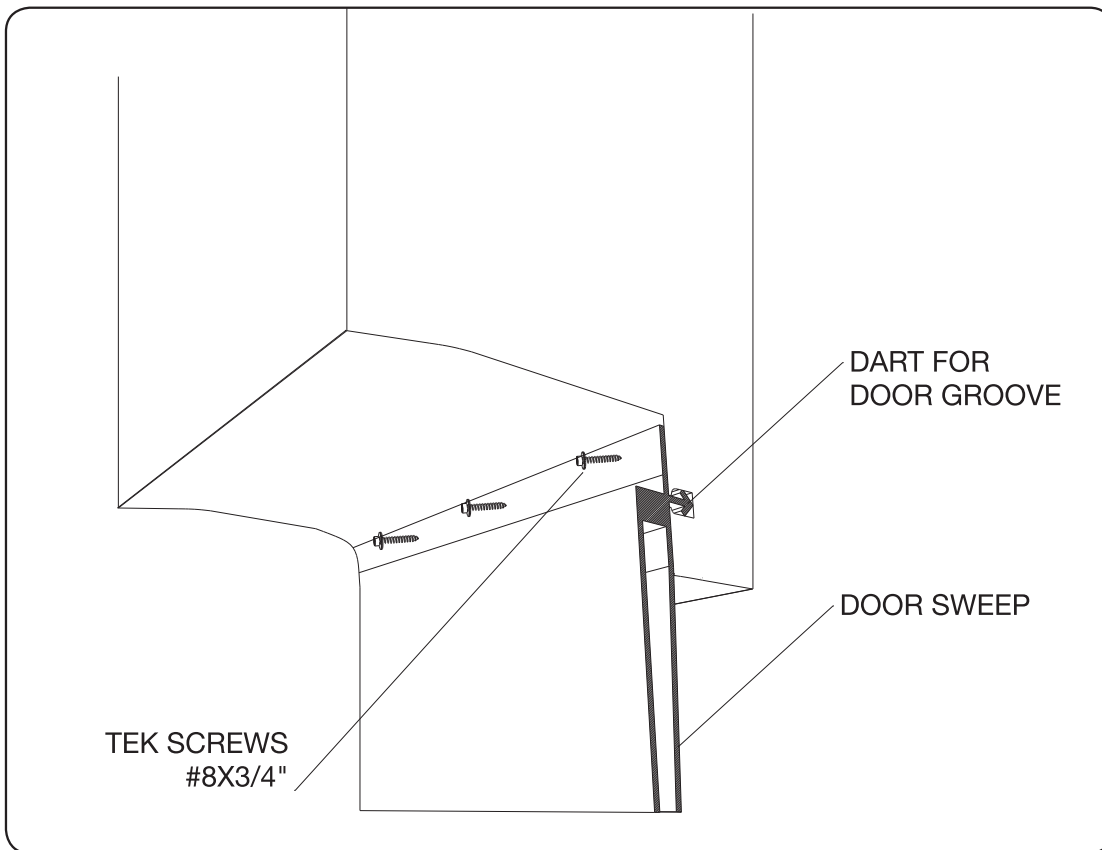

FIG 19.3 DOOR SWEEP REPLACEMENT
3. To install new sweep by pushing the dart into the groove in the channel. The interior sweep should be at least as wide as the door opening. The length of the exterior sweep should be the same as the width of the door face. Make relief cut-outs at the end of each exterior sweep where it overlaps the magnetic gasket. (See fig.19.3) Replace screws removed.